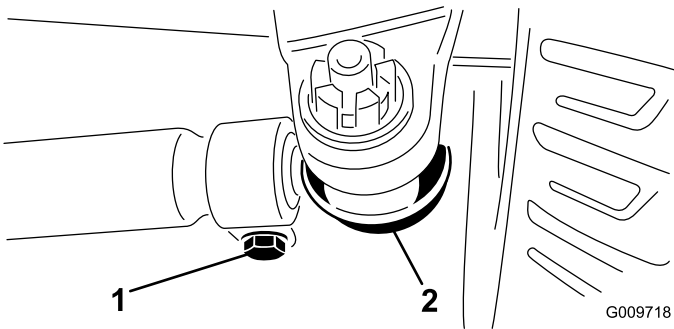

Figure 73
3. To adjust, remove the cotter pin and nut from either tie rod ball joint (Figure 73). Remove the tie-rod ball joint from the axle-case support.
4. Loosen the clamps at both ends of the tie rods (Figure 73).